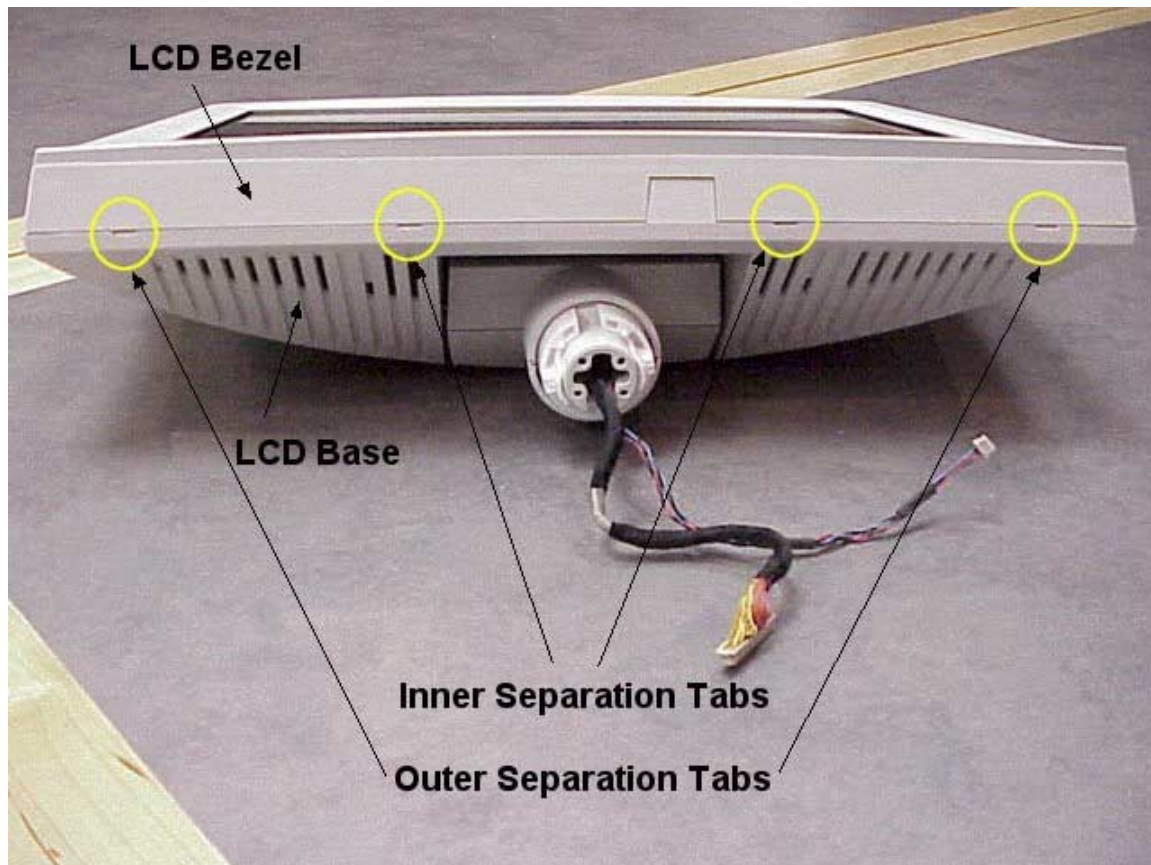
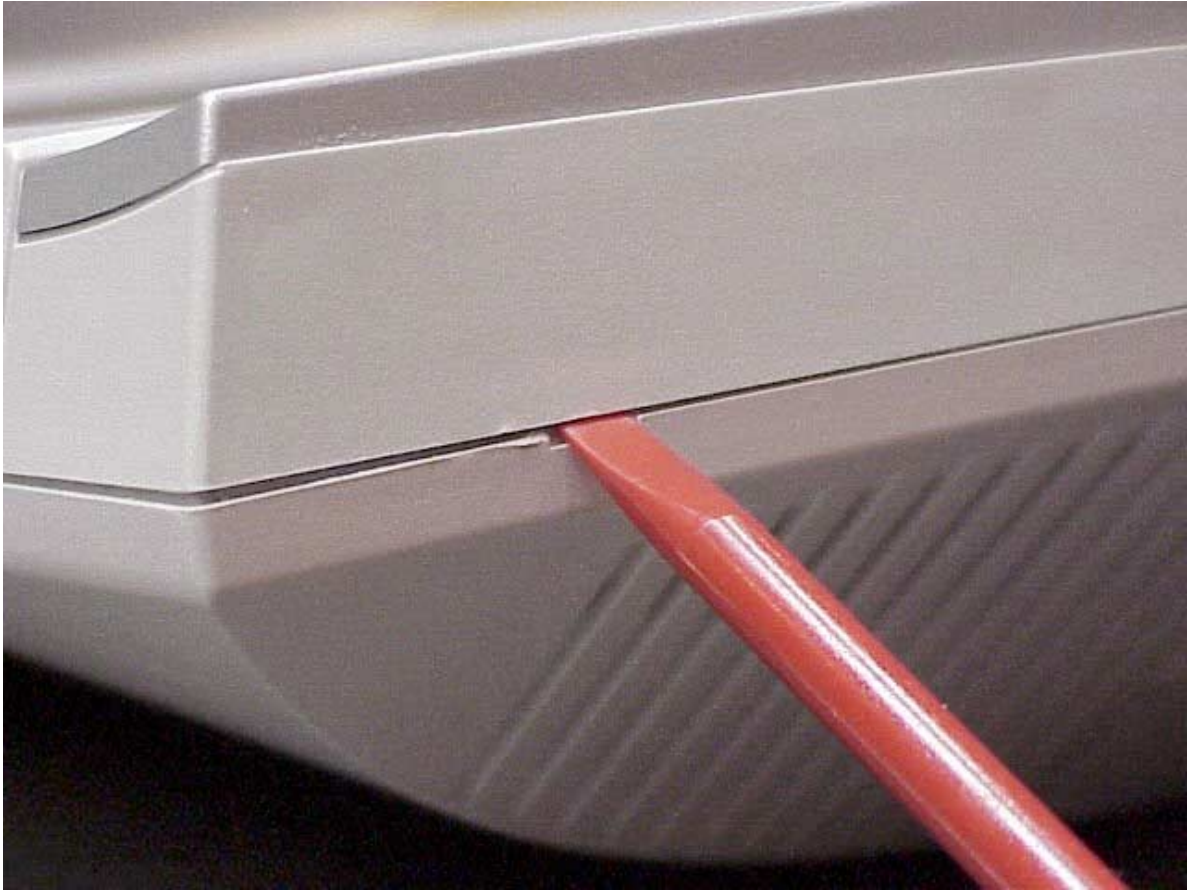

Figure 1.1: Location of the 4 LCD Bezel separation tabs. Note: LCD assembly separated from unit base for clarity.
Figure 1.2: insertion of the plastic screwdriver into one of the outer LCD Bezel separation tabs.
Tools needed: Technician's Plastic Flat-tip Screwdriver (see Figure 1.2 below).
Step 1: insert the plastic screwdriver into one of the outer LCD Bezel separation tabs (see figure 1.1). Insert screwdriver at an angle as shown in figure 1.2, and carefully pry outward on the LCD bezel so that it separates from the LCD base.